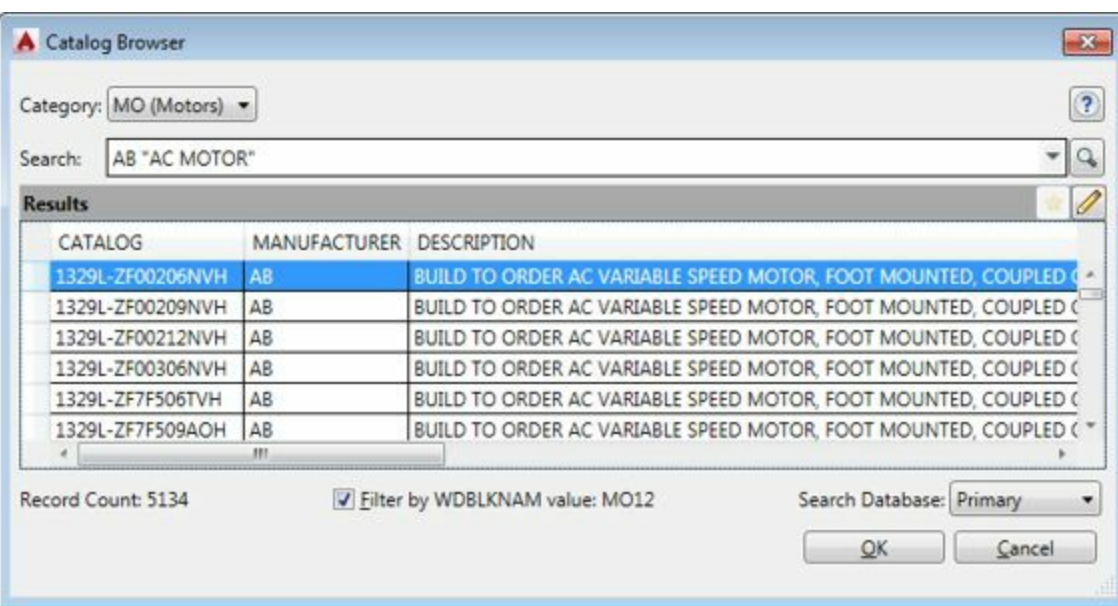

Figure-22. Motor in catalog browser
- Click on the **Lookup** button from the **Catalog Data** area of the dialog box and select the **1329-ZF00206NVH** field in the **CATALOG** column; refer to Figure-22.